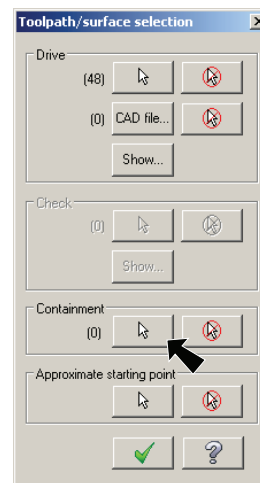

Fig. 7
Step 5. Click **Containment Select** button  in the Toolpath/surface selection dialog box, **Fig. 7**.